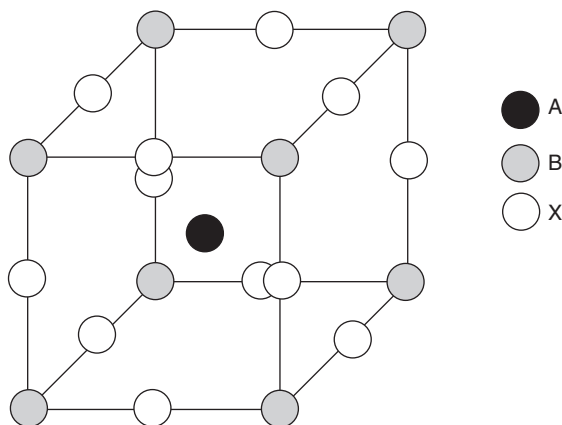

Figure 24 Perovskite ( $ABX_3$ ) structure.
2. **Perovskite structure:** This structure is adopted by many compounds of the formula  $ABX_3$ . In this structure, there is a simple cubic arrangement of B atoms (Ti), with the A atoms (Ca) located at the body center of the cube and the X atoms (O) at the center of the 12 edges of the simple cube. Thus, the central A ion is surrounded by 12 X ions; the B ion by 6 X ions; and the X ion is linearly coordinated by 2 B ions (Figure 24). Examples of compounds with Perovskite structure:  $\text{NaNbO}_3$ ,  $\text{BaTiO}_3$ ,  $\text{CaZrO}_3$ ,  $\text{YAlO}_3$ ,  $\text{KMgF}_3$ , etc.